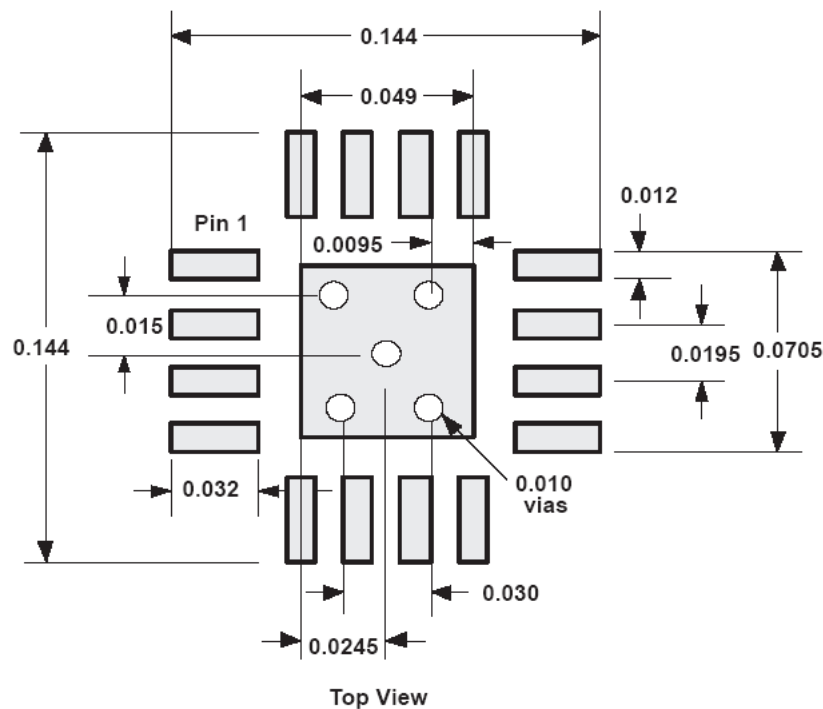

Figure 9.13: PowerPAD PCB Etch and Via Pattern.
1. Prepare the PCB with a top side etch pattern as shown in Figure 9.13. There should be etch for the leads as well as etch for the thermal pad.